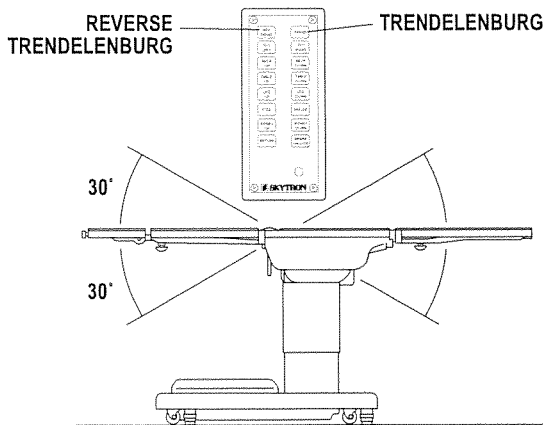

Figure 3-5. Trendelenburg Positioning
c. Trendelenburg. To place the surgical table in a Trendelenburg (head down) position, press the TREND button (figure 3-5). Trendelenburg positioning of up to 30° may be obtained. To place the table in a reverse Trendelenburg (head up) position, press the REV TREND button. Reverse Trendelenburg positioning of up to 30° may be obtained.